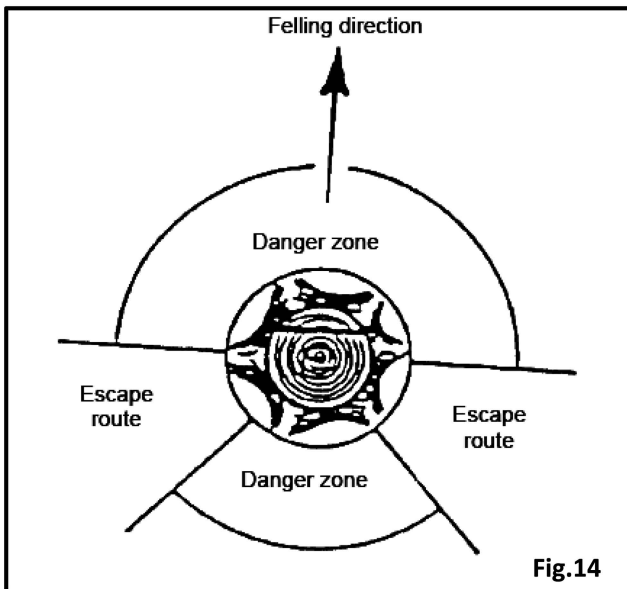

Fig.14
- An escape path should be planned and cleared as necessary before cuts are started. The escape path should extend back and diagonally to the rear of the expected line of fall as illustrated in figure 14.